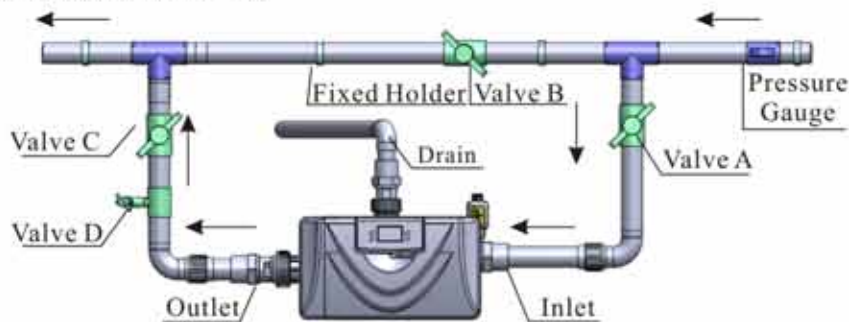

Figure 1-3
- As Figure 1-3 shows, install a pressure gauge in water inlet.
- Install valves A.B.C.D in inlet, outlet and pipeline as showed in Figure 1-3. Valve D is a sampling valve.